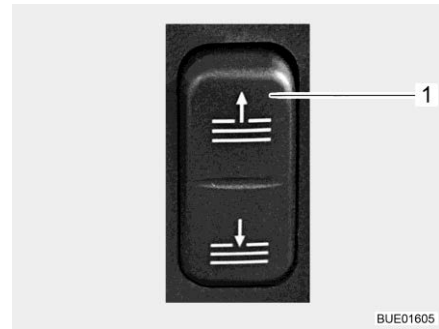

Fig. 105 Switch for windscreen shade
- Push down and hold the switch (Fig. 105,1) until the windscreen shade has reached the required position.
- Push up the switch (Fig. 105,1) and keep it pressed until the windscreen shade has moved up completely.